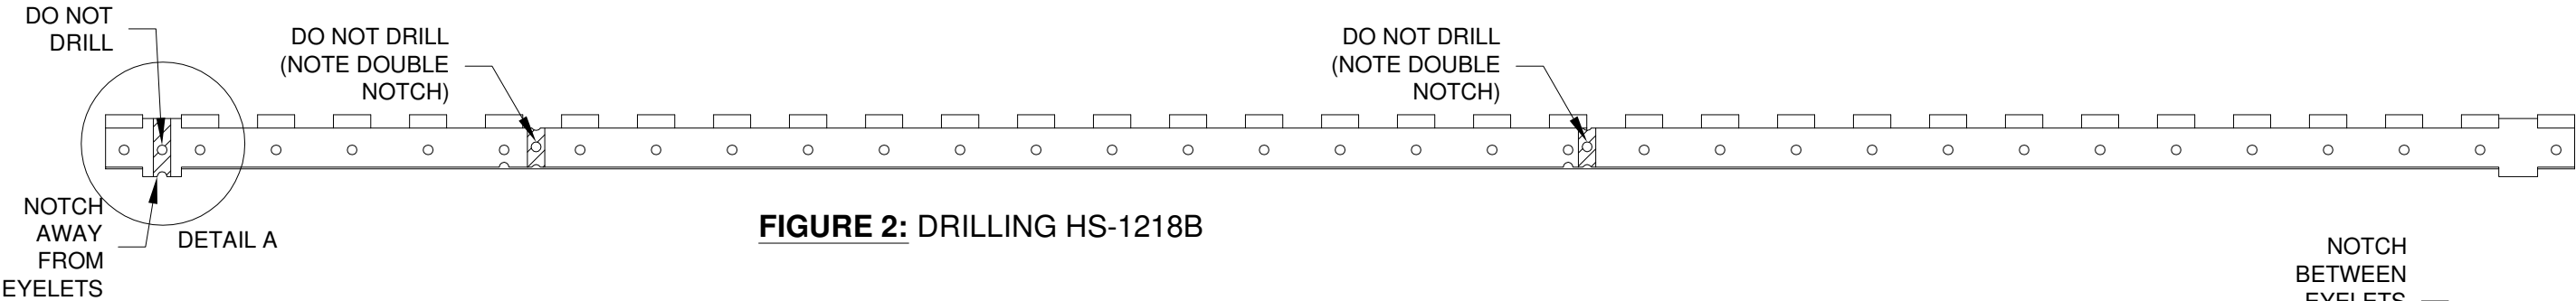

FIGURE 2: DRILLING HS-1218B
Step 2: Position the HS-00007 Drill Guide per Figure 2 then clamp the drill guide onto the AST hinge half. Make sure the notch in the drill guide is positioned as shown. Tape over the holes that should not be drilled. Match-Drill #30 all holes except the holes indicated to make the HS-1218B AST Hinge Half. Repeat this step to make a second HS-1218B. Remove the tape from the drill guide.